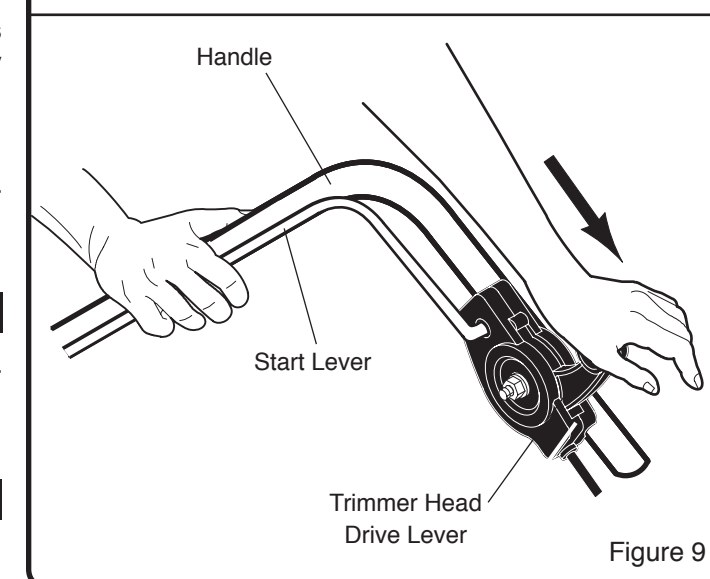

Figure 9
2. Press and hold the start lever against the handle. (See Figure 9)
3. Press the trimmer head drive lever forward, until it locks into position. (See Figure 9)
Release the start lever (See Figure 9). This will release the trimmer head drive lever and disengage the trimmer head.